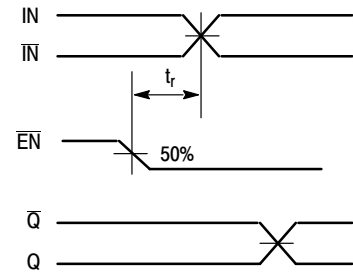

Figure 5. Release Time
7. The release time is the minimum time that EN must be deasserted prior to the next IN/ $\bar{IN}$ transition to ensure an output response that meets the specified IN to Q propagation delay and output transition times (Figure 5).
- The release time is the minimum time that $\overline{\text{EN}}$ must be deasserted prior to the next $\text{IN}/\overline{\text{IN}}$ transition to ensure an output response that meets the specified IN to Q propagation delay and output transition times (Figure 5).